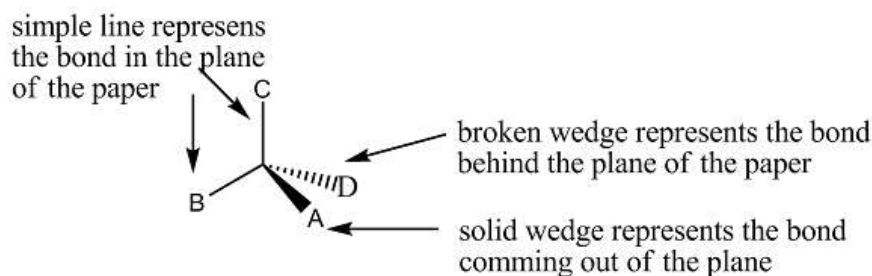

Figure 4.6: Wedge formula
**Wedge formula for substituted methane** The wedge formula for substituted methane is as shown in fig.4.6. Thick line represents the groups which are projecting towards us. and broken lines represents the groups which are projecting away from us. Ordinary lines represents the groups in plane of the paper.